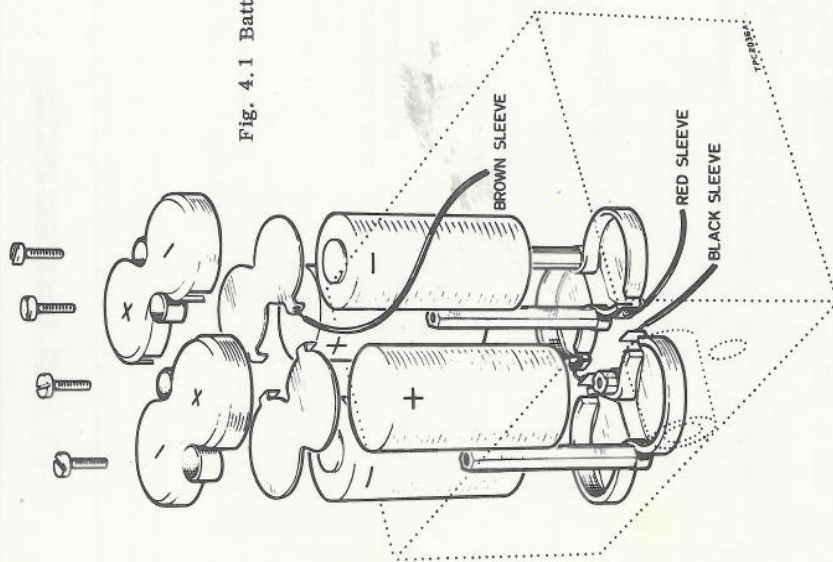

Fig. 4.1 Battery Arrangement.
- (3) Carefully lift away the flat connectors that electrically connect each two units together. The batteries can now be lifted out.
- (4) Replace the batteries with Mallory type TR 132 R or equivalent ensuring that the configuration with respect to polarity is as shown in Fig. 4.1.
- (5) Replace the connectors, again referring to Fig. 4.1 to ensure that each connector is paired with the correct pair of batteries.
- (6) Replace the container lids ensuring that the slots in them mate with the spigots on the connectors.
- (7) Replace the instrument lid.